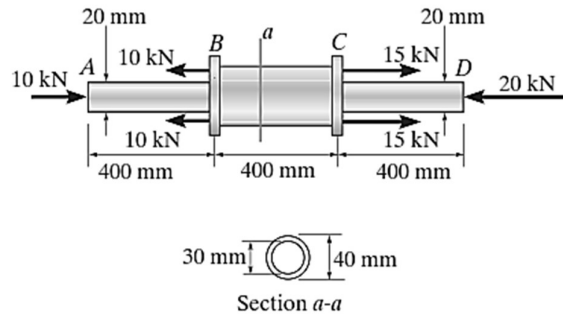

Fig. 2
2. Segments  $AB$  and  $CD$  of the assembly shown in Fig. 2 are solid circular rods, and segment  $BC$  is a tube. If the assembly is made of 6061-T6 aluminum ( $E_{al} = 68.9$  GPa), determine the displacement of end  $D$  with respect to end  $A$ . [ $\delta_{D/A} = -0.449$  mm]